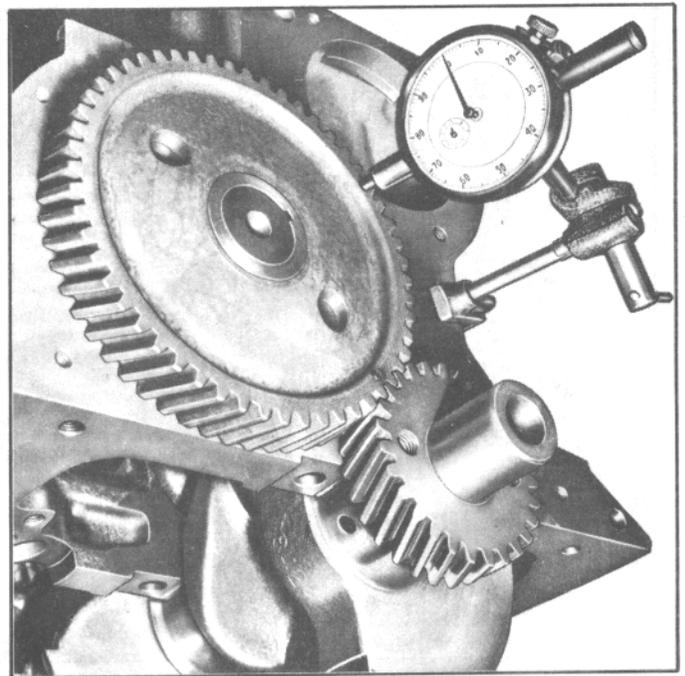

Fig. 68. Checking Timing Gear Runout
5. Check camshaft gear run out with a dial indicator (Fig. 68). The camshaft gear run out should not exceed $.004''$, and the crankshaft gear run out should not exceed $.003''$.